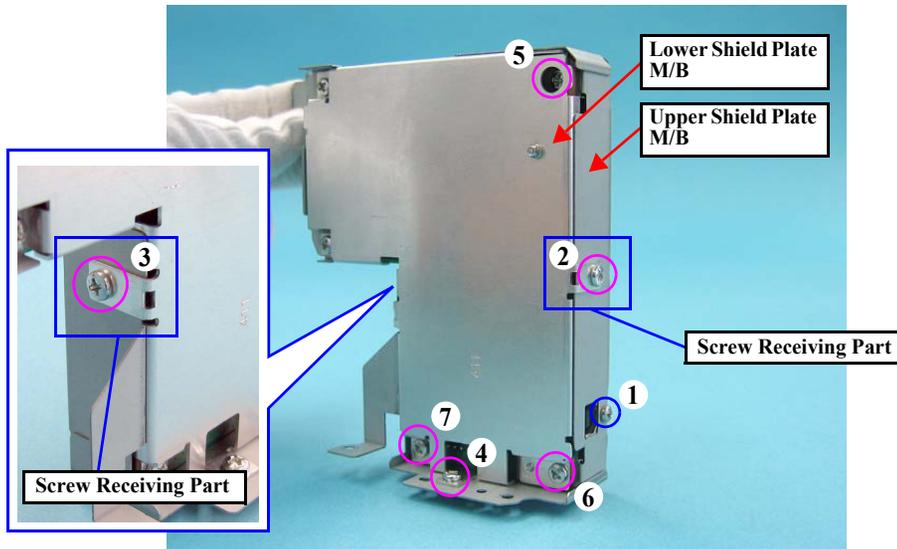
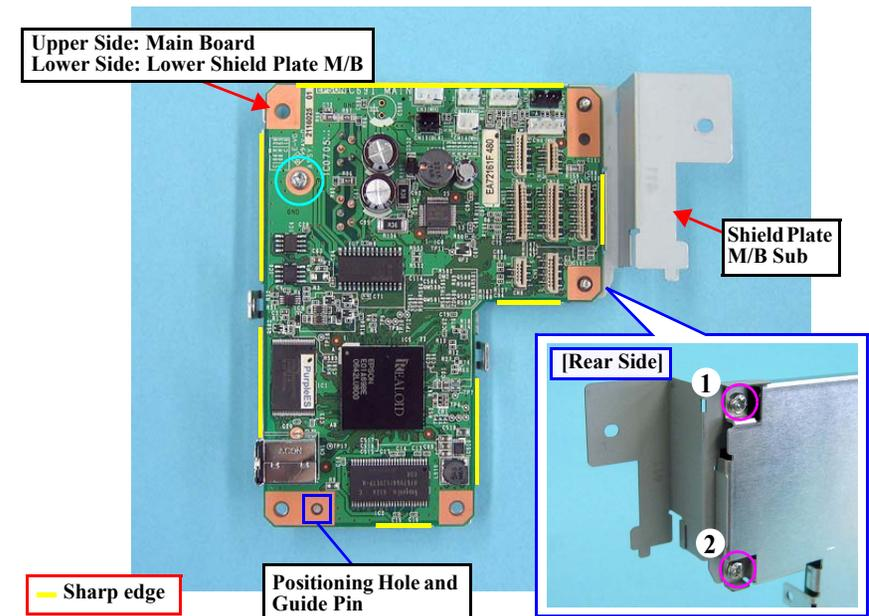

Figure 4-21. Removing the Upper Shield Plate M/B
Figure 4-22. Removing the Main Board
- When installing the Main Board, match the positioning hole with the guide pin shown in Fig.4-22.
- Tighten the screws in the order given in Fig.4-21 (p.66), Fig.4-22.